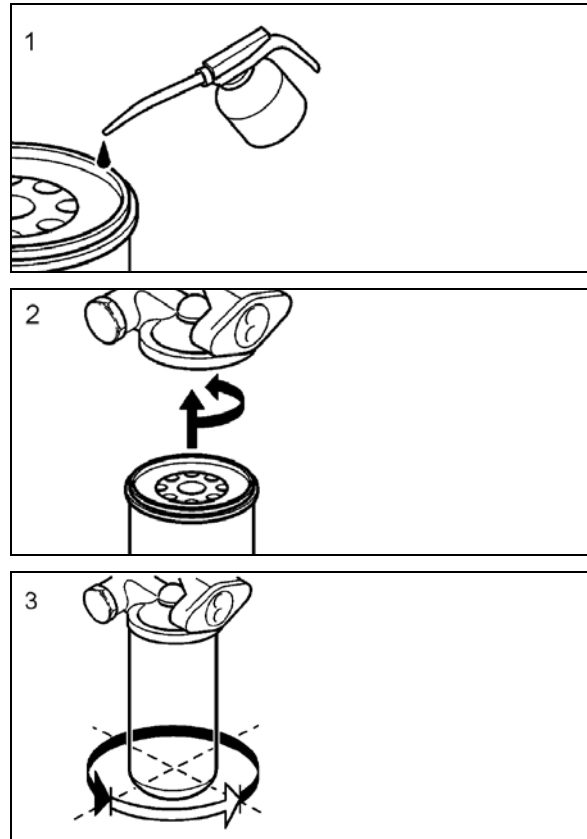

FIGURE 9: OIL FILTER REPLACEMENT
- Prefill the new oil filters with approved engine oil. Refer to Figure 9, also, lubricate the filter gaskets with engine oil (1). Hand tightens the oil filters until they contact the sealing surface of the oil filter housing (2). Manually tighten the oil filters an additional ¼ to 1 full turn (3).